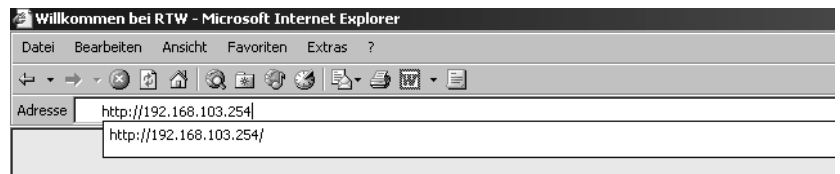

Fig. 8-24: Entering the IP-Adress
1. Start your internet browser and enter `http://192.168.103.254` in the address field (see Fig. 8-24) followed by the hit of the return (Enter) key.